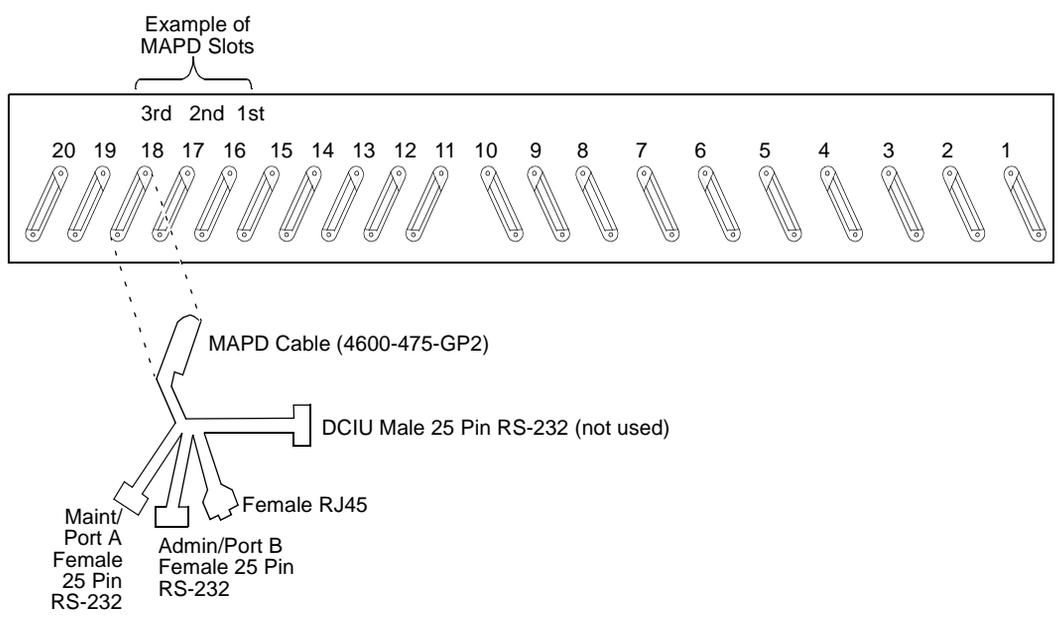
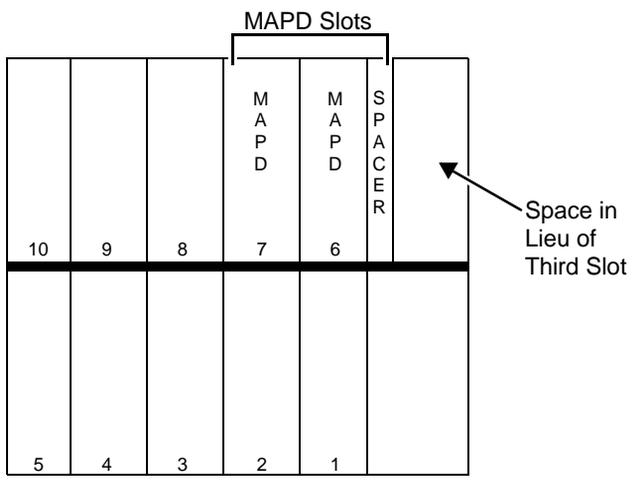

Figure 2-4. Connecting the Adapter Cable, Rear-Panel View of DEFINTY ECS System
Figure 2-5. Rear View of MAPD in DEFINTY ProLogix
The slots are numbered from left to right on the front panel of the switch cabinet, and from right to left on the rear panel as shown in Figure 2-4, “Connecting the Adapter Cable, Rear-Panel View of DEFINITY System” and Figure 2-5 “Rear View of MAPD in DEFINITY ProLogix.” The three port slots are occupied by the MAPD system assembly as follows:
2. Referring back to Figure 2-4, "Connecting the Adapter Cable, Rear-Panel View of DEFINITY ECS System," and the instructions that follow, connect the MAPD system assembly adapter cable to the port connector on the back of the switch.